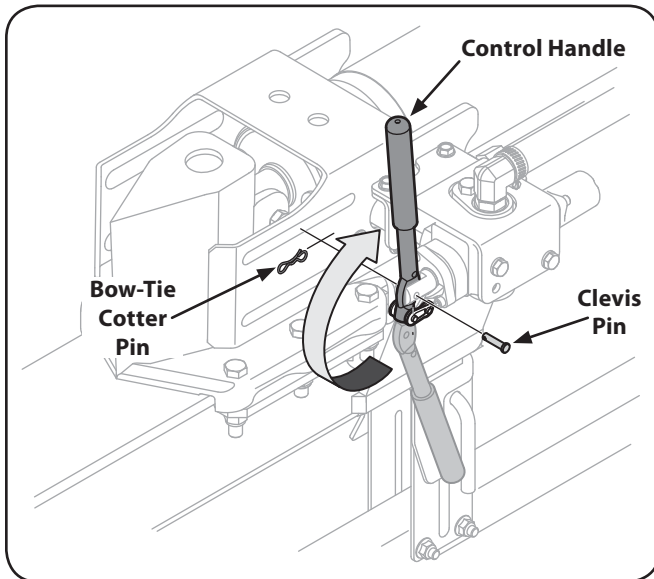

Figure 3-7
- Remove the clevis pin and bow-tie cotter pin from the control handle. See Fig. 3-7.
- Rotate the control handle into the operating position and secure with the clevis pin and bow-tie cotter pin removed in step 1. See Fig. 3-7.